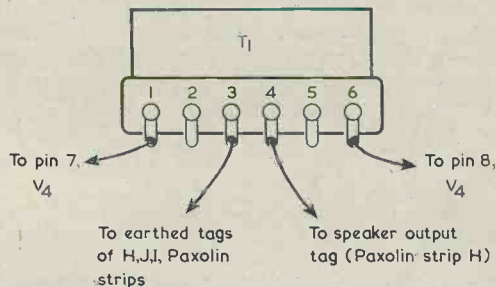

Fig. 12. The connections to output transformer T1
32. Connect pin 8 of V4 to tag 6 of output transformer T1 (see Fig. 12). Solder at both connections. Connect pin 7 of V4 to tag 1 of T1. Solder at both connections.